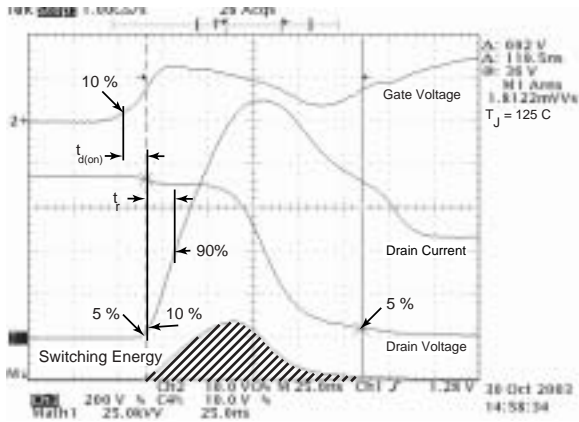

Figure 18, Turn-on Switching Waveforms and Definitions
① Repetitive Rating: Pulse width limited by maximum junction temperature
② Pulse Test: Pulse width < 380 μs , Duty Cycle < 2%
③ See MIL-STD-750 Method 3471
④ Starting $T_j = +25^\circ C$, $L = 8.88mH$, $R_G = 25\Omega$, Peak $I_L = 26A$
⑤ dv/dt numbers reflect the limitations of the test circuit rather than the device itself. $I_S \leq -26A$, $di/dt \leq 700A/\mu s$, $V_R \leq 1100$, $\tau_J \leq 150^\circ C$
⑥ E_{on} includes diode reverse recovery. See figures 18, 20.